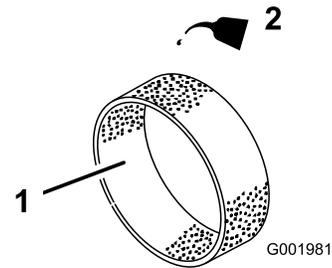

Figure 38
4. Put 30 to 59 ml (1 to 2 fl oz) of oil on the element (Figure 38).